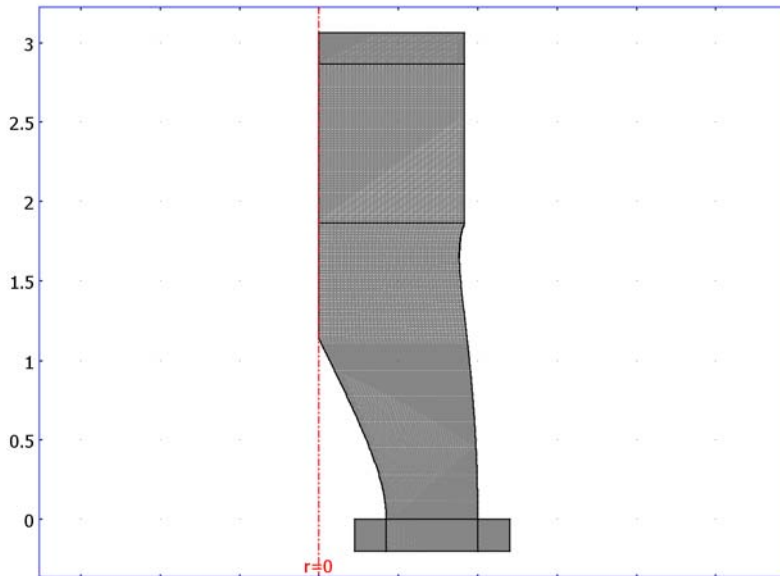

Figure 3-19: The meshed geometry.
- 5 Click the **Mesh All (Mapped)** button on the Mesh toolbar to generate the mesh. The result should look like that in Figure 3-19.